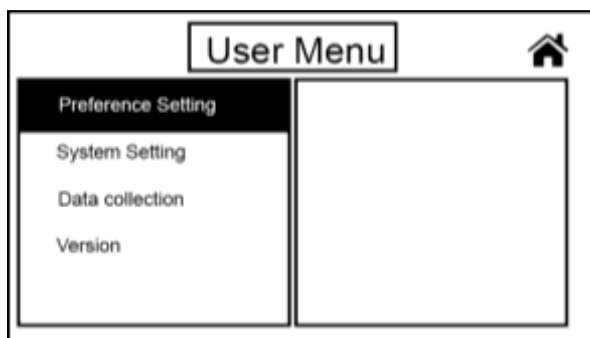
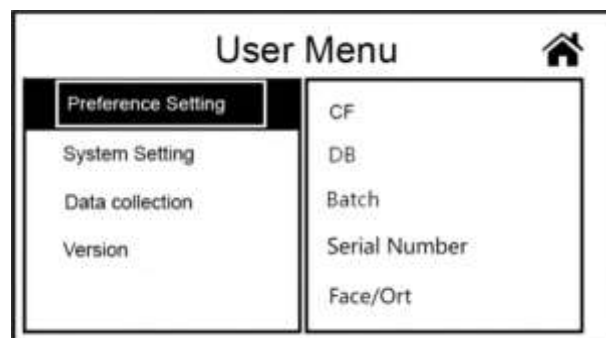

Figure 84
Figure 85
1) Touch the “Menu” key to enter the “User Menu” interface, as shown in Figure 84 below. Then press “Preference Setting” to enter the “Preference Setting” interface, as shown in Figure 85.